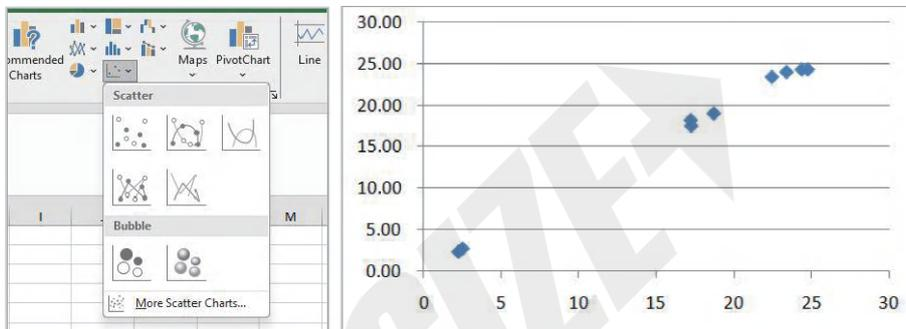
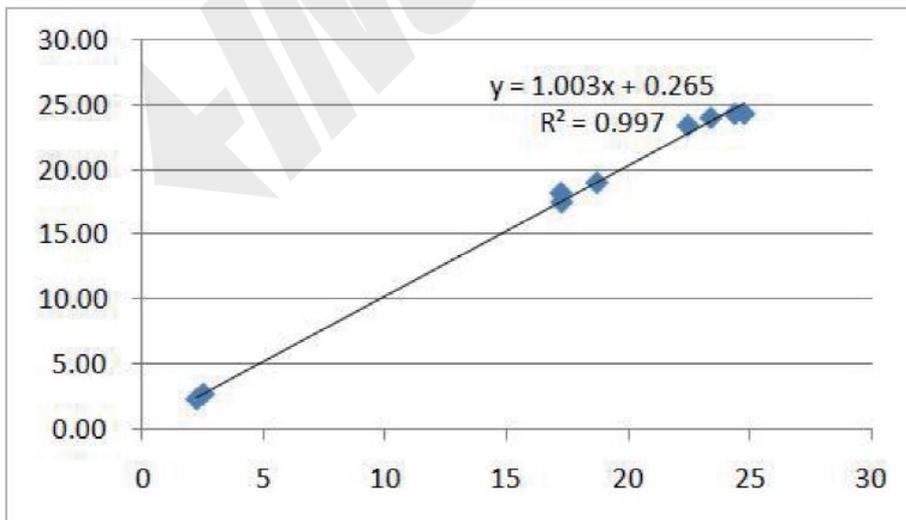

Figure 2
Figure 3
7. After selecting all the data with the mouse, select Scatter Plot under the Insert menu, as shown in Figure 2, and then select the first one to get Figure 3.
8. Put the mouse point on the data point in the coordinate, press the right button, and select in the column: Add trend line, the screen will display the dialog box, check the display formula, press close to get Figure 3.
9. According to the formula in Figure 3 that is, $y = 1.003x + 0.265$, the correction coefficient can be obtained, 1.003 is the slope, and 0.265 is the intercept. (The slope is equivalent to the factor, and the intercept is equivalent to the offset)